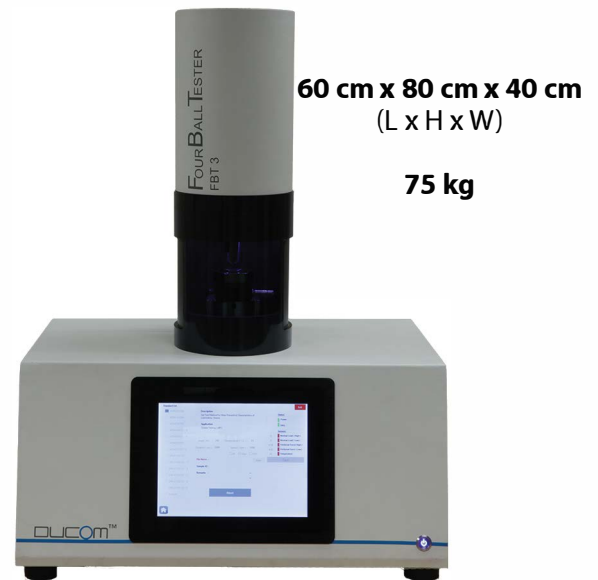

Figure 1. Ducom Four Ball Tester (new design)
The Ducom Four Ball Tester (see Fig. 1) is designed to characterize the wear preventive (WP), extreme pressure (EP), frictional and fatigue properties of lubricants.